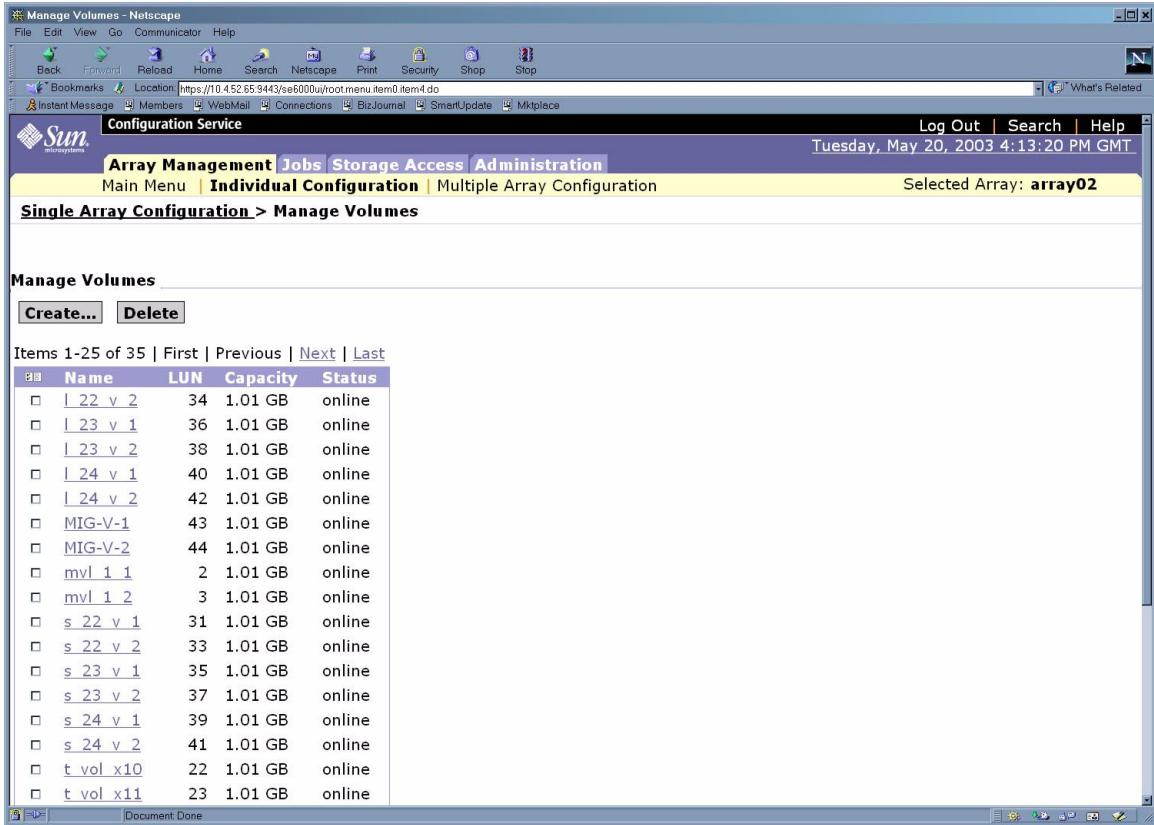

FIGURE 6-20 Single Array Configuration—Manage Volumes Page
7. Click on Manage Volumes and the Single Array Configuration Manage Volumes page is displayed as show in FIGURE 6-20.